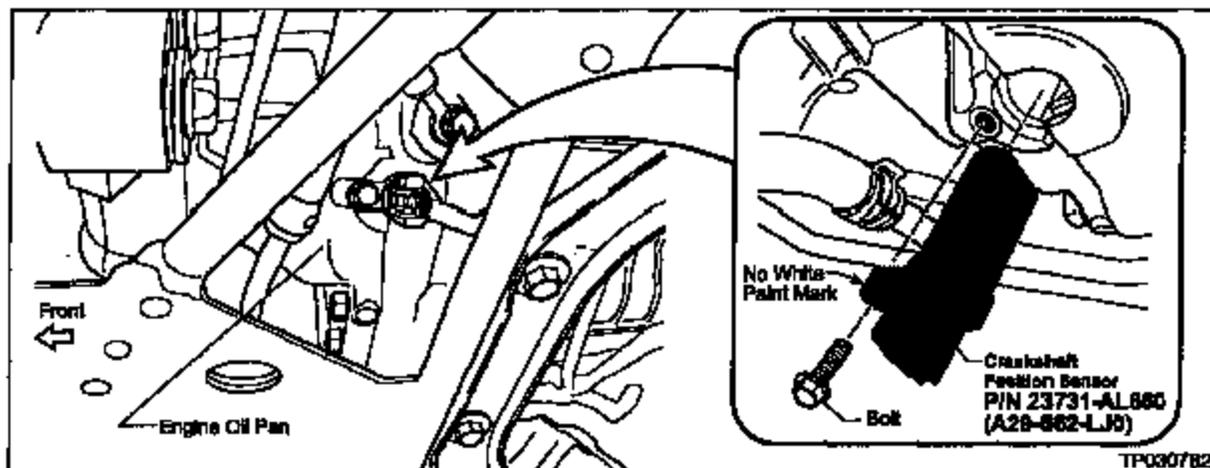

Figure 19
3. Locate the Crankshaft Position Sensor (see Figure 19).